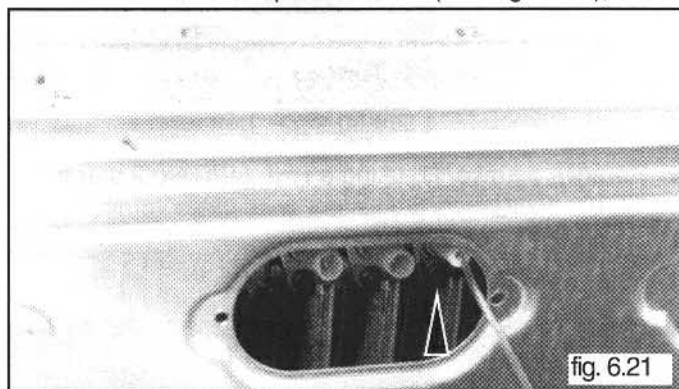

fig. 6.21
- 5 Remove the screw which fixes the sensor using a PHILLIPS No.2 star tip screwdriver (see fig. 6.21);